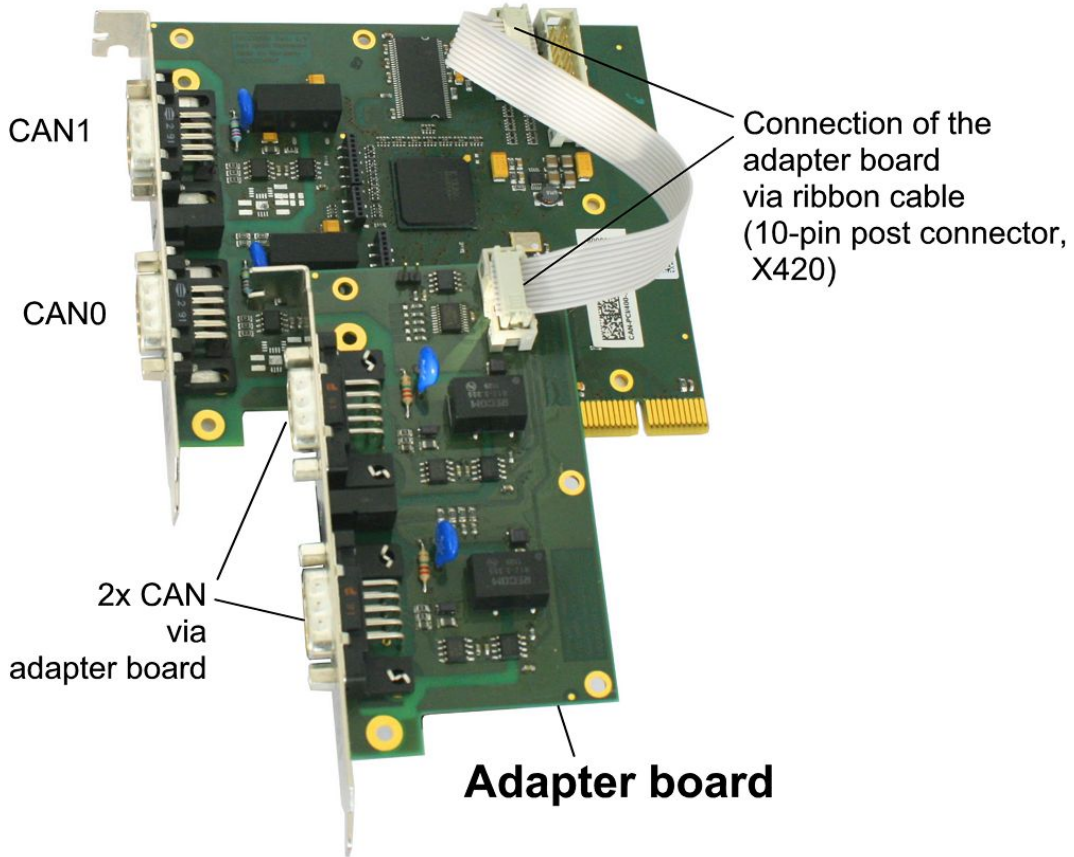

Figure 3: View of CAN-PCI/400-4 with ribbon cable
8. If you are installing the CAN-PCI/400-4 module with 4 CAN interfaces you have to install the adapter board in the PCI slot next to the CAN-PCI/400 board. Connect the two boards with the included ribbon cable (see figure 3 on page 10) via the 10-pin post connectors on the board and on the adapter.